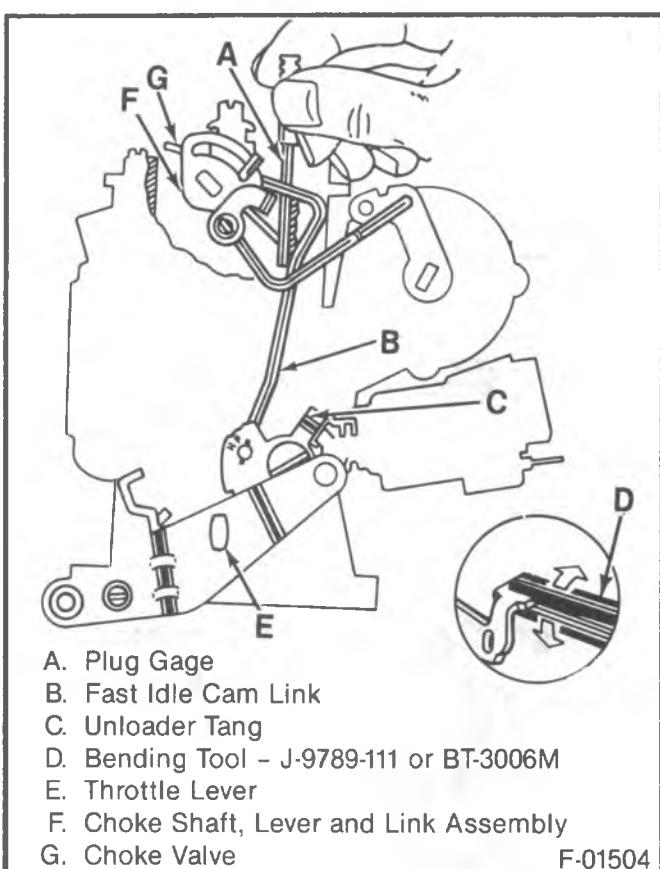

Figure 43 - Unloader Adjustment
Adjust (Figures 43, 44)
- If adjustment is needed, bend the unloader tang on throttle lever as shown in inset of Figure 43.